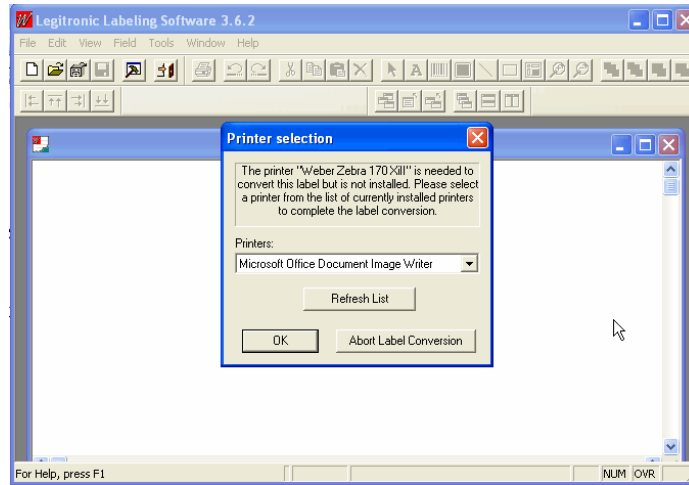

Figure 4-12
4.3.4. If the printer that the label format is using is not found, you will see the following: (Figure 4-12)